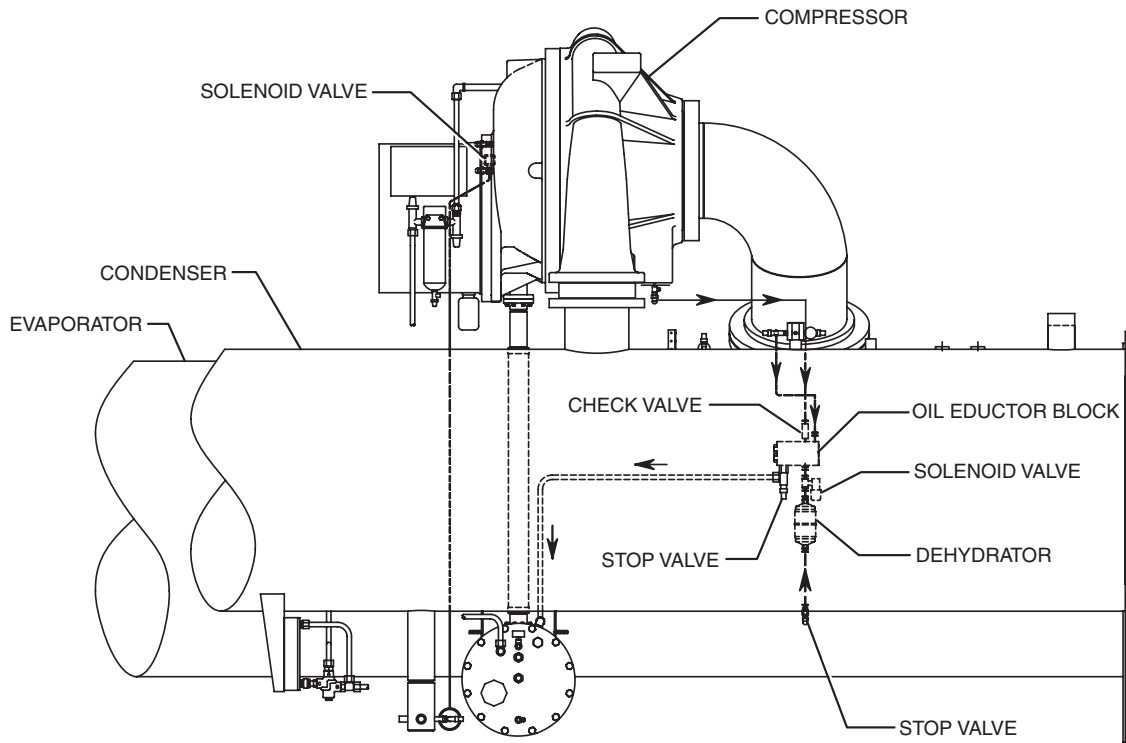

Figure 7.1 Oil Return System
2. Remove the dehydrator, refer to figure 7.1.